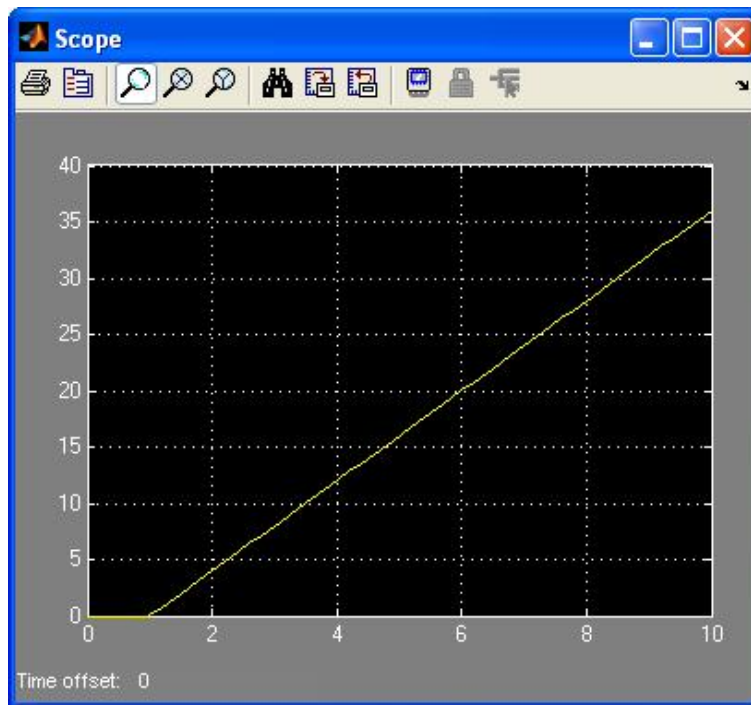

Figure 6: Scope plot of our initial system
3. Your simulation is complete, double click on the **Scope** block. This will bring up a plot of the output. Right click on the the plot background and select **Autoscale** so you can see the entire plot. You should see the plot given in Figure 6.